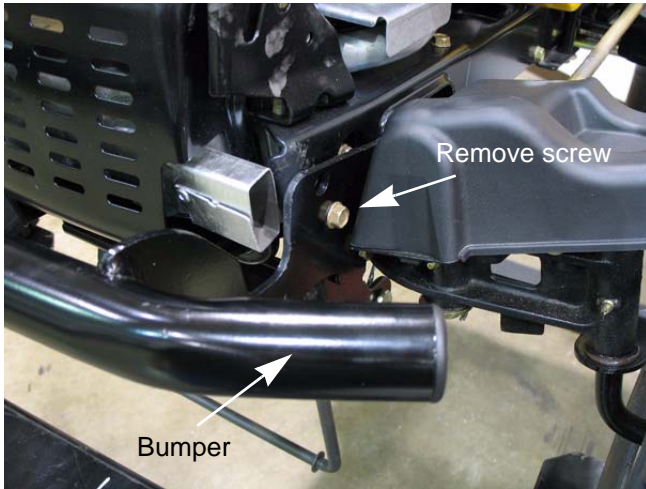

Figure 4.5
7. Open the hood far enough to align the tabs with the slots, then lift the hood off of the tractor. See Figure 4.5.
1. Remove the two screws, one on each side, that secures the bumper bracket. See Figure 4.5.